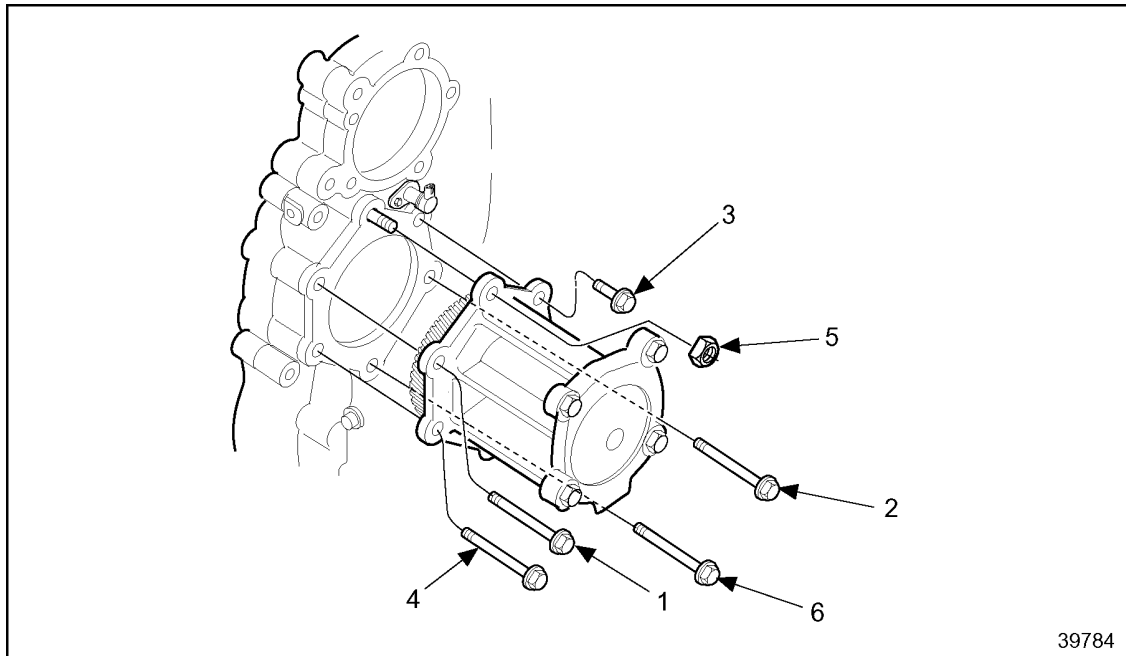

Figure 10-25 Bolt Torque Sequence
3. Using the required torque pattern, torque the five bolts and nut to 58-73 N·m (43-54 lb·ft). See Figure 10-25.